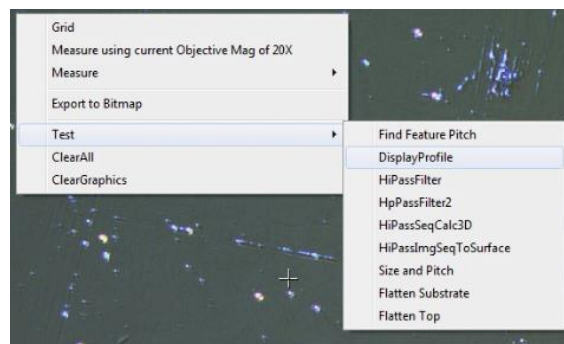

Fig. 40. Right-click menu on Nomarski image
8. Right click on the image to display the menu in Fig. 40. Select *Test* then select *Display Profile*.